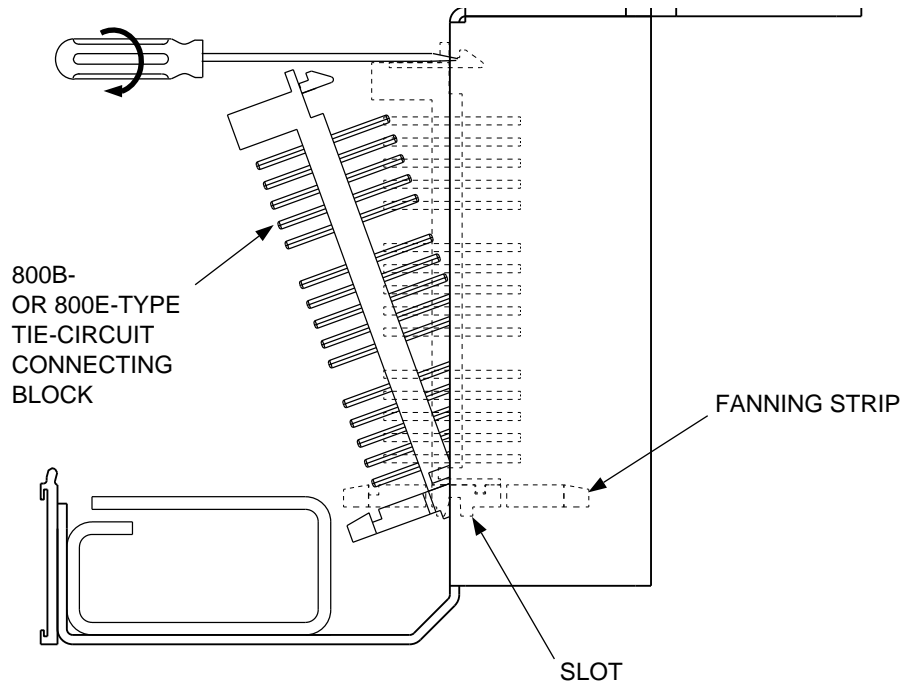

Figure 4. Removing an 800B-Type or 800E-Type Tie-Circuit Connecting Block
1. Insert screwdriver into slot at top center of tie-circuit connecting block from front of bay, until blade contacts stop at back of latch (see Figure 4).